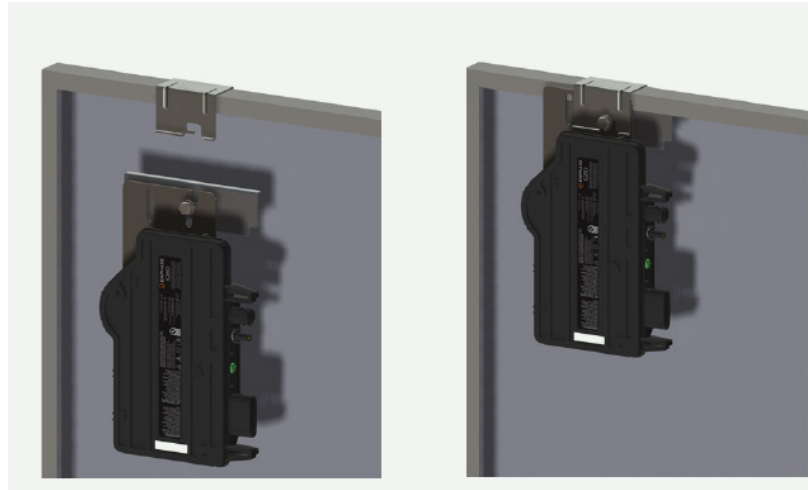

Figure 16: Frame Mount bracket placement
- Slide the microinverter unit onto the bracket clamp. The bolt now holds the frame mount to the bracket clamp. The microinverter mounting flange should be on the outside of the module frame, as shown in Figure 16.